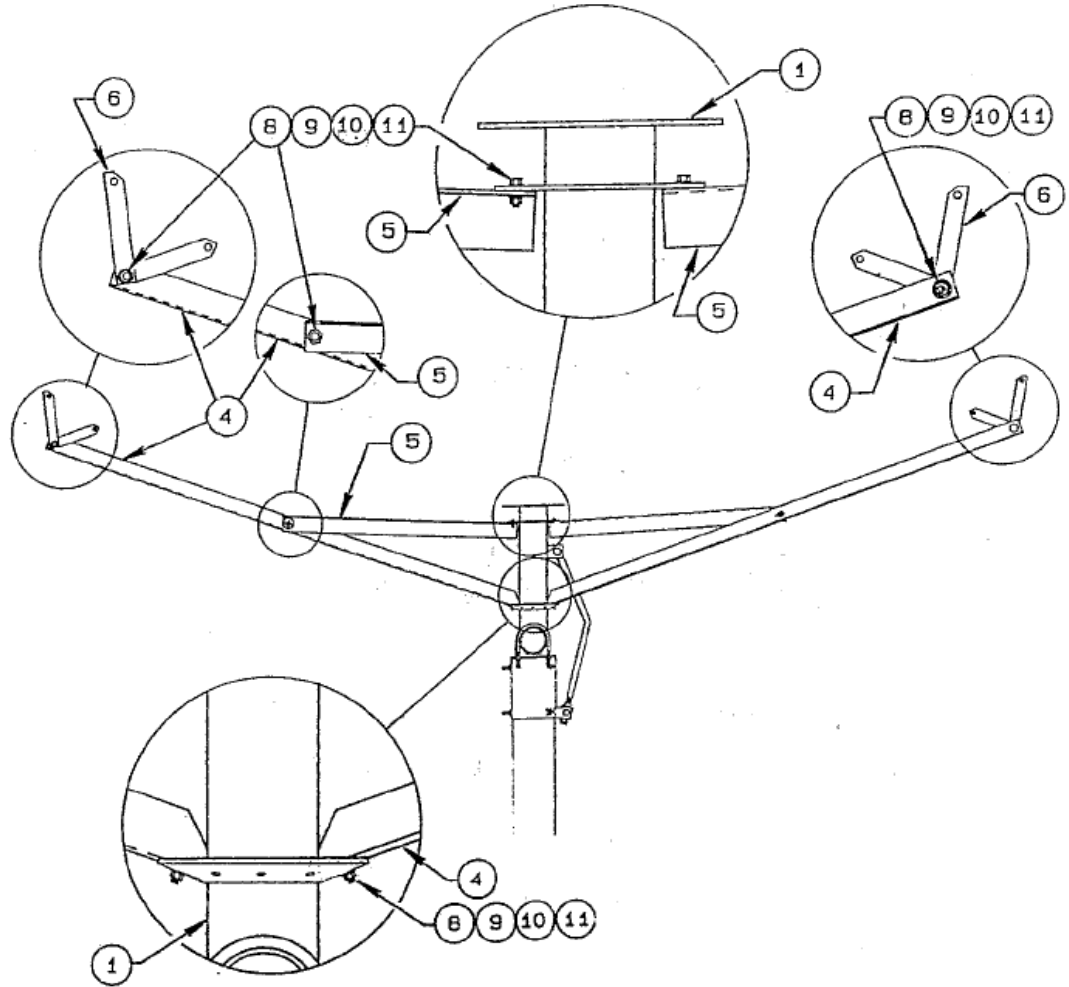

Figure 4.3-2
4. Attach the chamfered end of one of the long angle braces (item# 4) on top of the hub's lower ring with [1] 1/2-13 x 1.25" bolt, [2] flatwashers, [1] lockwasher, and [1] 1/2-13 hex nut (items # 8,9,10,11). Mount a short brace (item# 5) to the bottom of the upper ring and the middle of the long brace with the same 1/2" hardware. Attach a reflector mount bracket (item# 6) to the end of the long brace, making sure that the shorter, pointed, leg of each bracket is pointed up and towards the hub, using same 1/2-13 x 1.25" bolts and hardware (8,9,10,11). Attach the remaining long and short braces and reflector mounting brackets to the center hub in the same manner. **Tighten only until lockwashers are flattened at this time.** See figure 4.3-2.